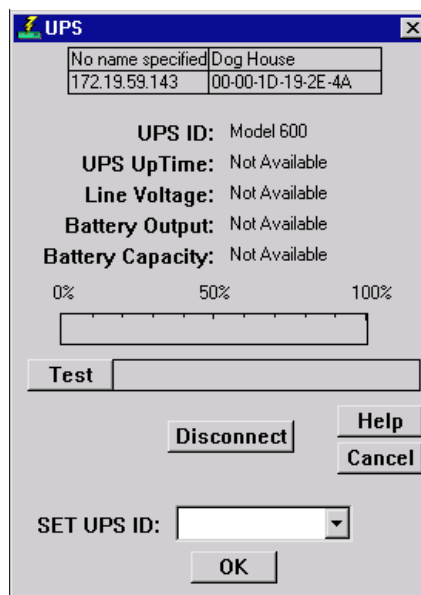

Figure 2-18. The UPS Window
2. Select **UPS**. The UPS window, Figure 2-18, will appear.